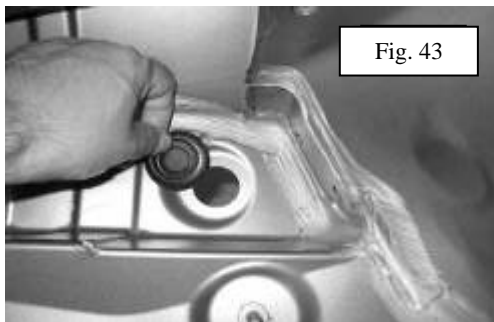

Fig. 43
25. Remove the grommet on the driver's side in the tray area (Fig 43). From underneath the vehicle route the 4-flat harness wires containing the 4-pin black connector and grommet up through the hole.